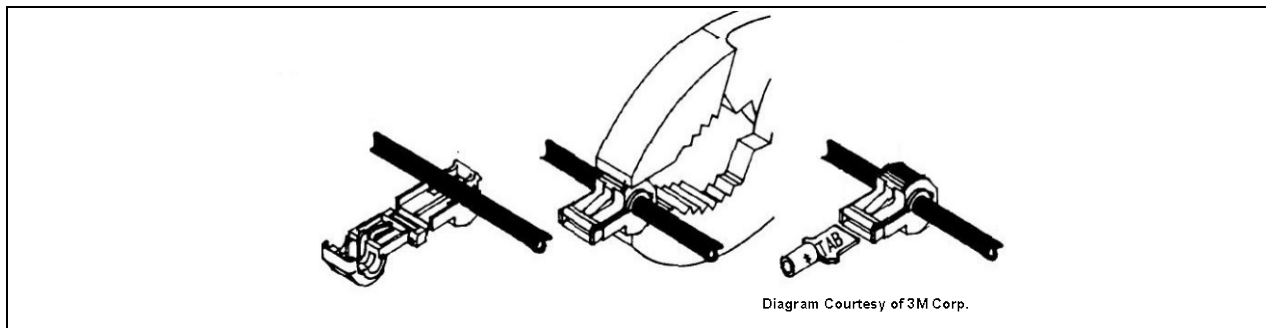

Figure 8-13: Attaching T-Tap Terminals to a Switched Power Wire
9. Attach the selected T-tap terminal by fitting the wire into its wire groove and snapping the two halves together with a pair of pliers as shown in Figure 8-13.